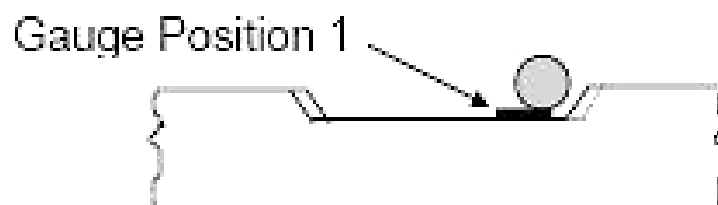

Figure 5 – Gauge Position 1
- 3.8 Using the 2mm gauge (Position 1 – in Figure 5), check that detection is broken by reference to the meter.